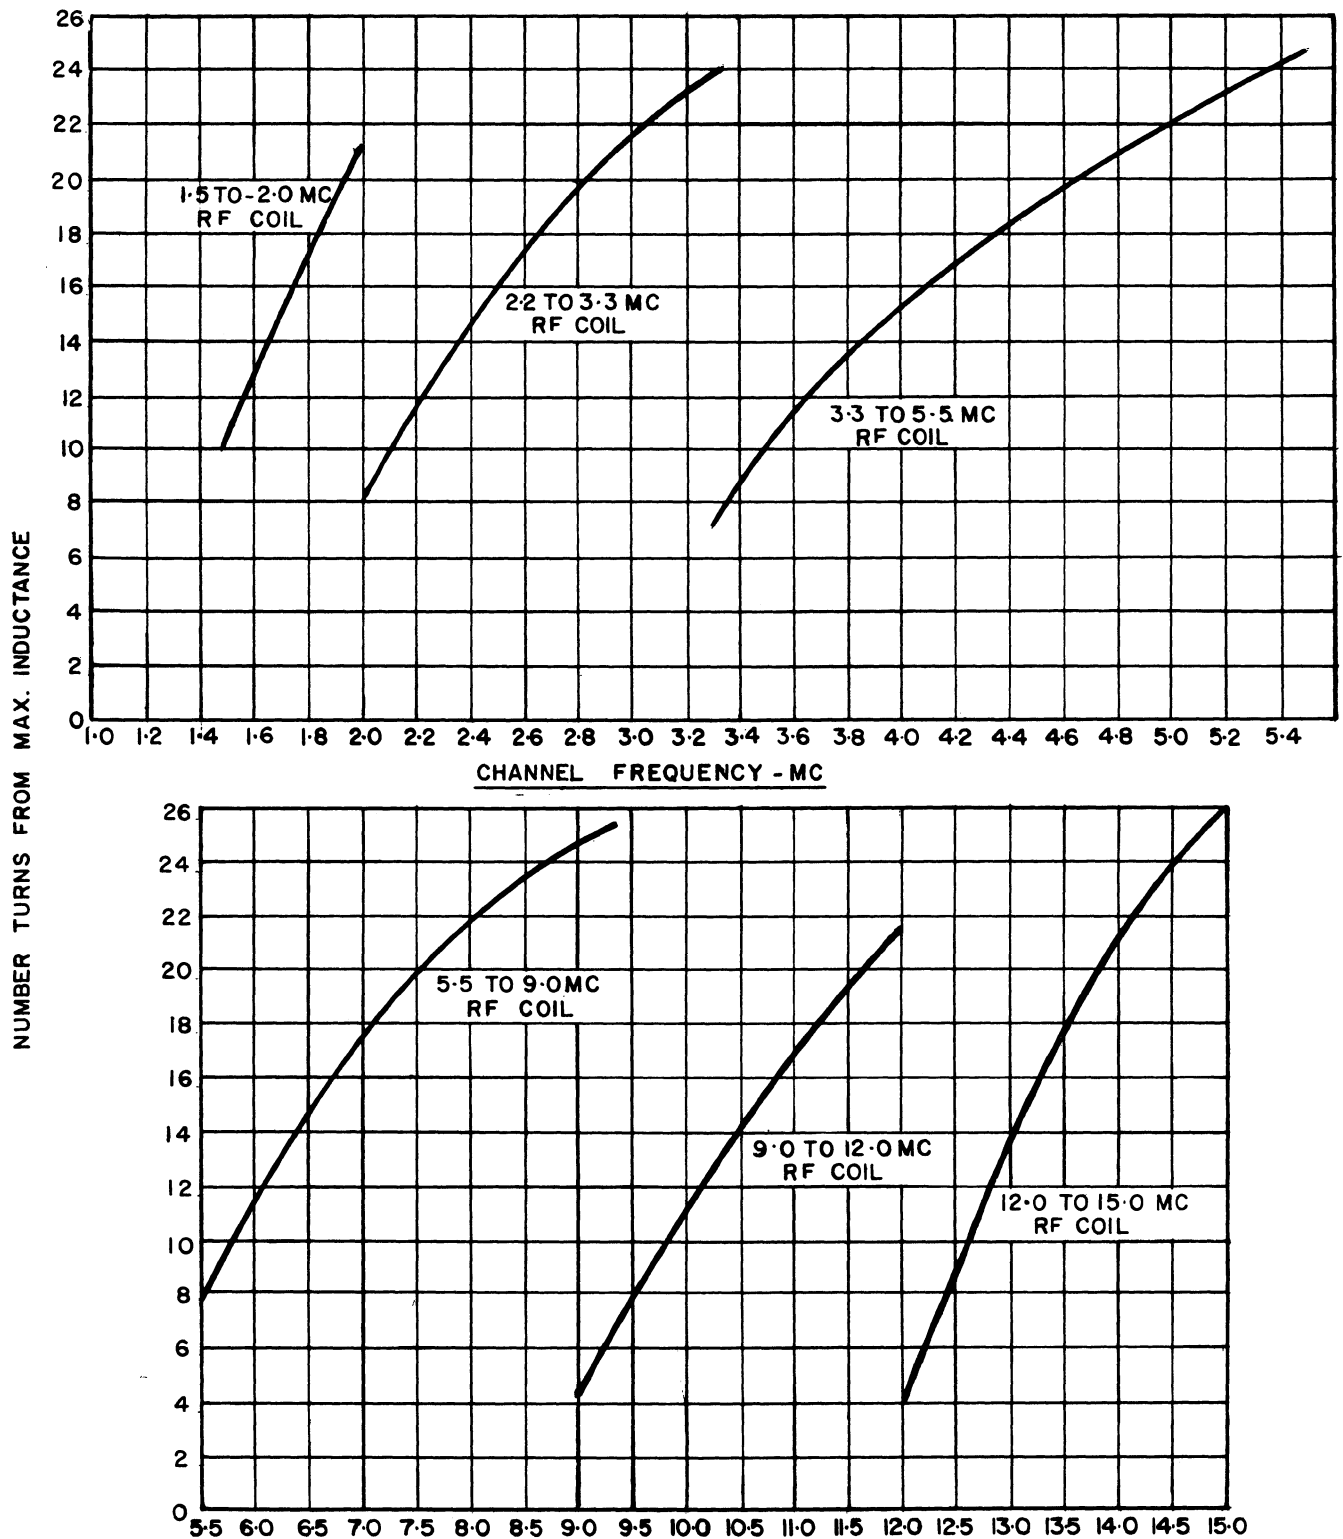

Figure 5-1 Calibration Curves for Antenna and R-F Coils
- (b) Refer to figure 5-1 and turn the slugs out the proper number of turns corresponding to the channel frequency.